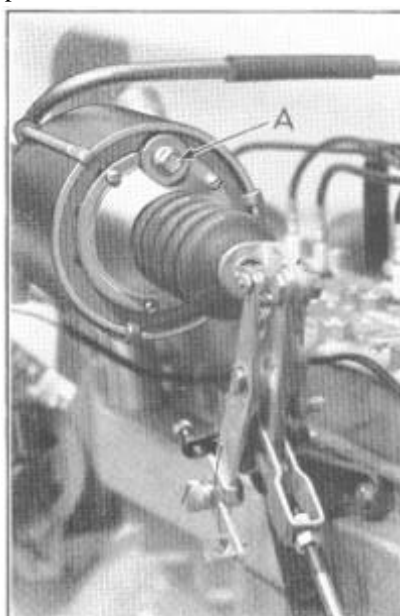

Figure 27
This can be accomplished by removing plug (A), Figure 27, and inserting one ounce of fluid into the power cylinder. Avoid over-oiling. It is advisable to have your Hudson dealer perform this service.